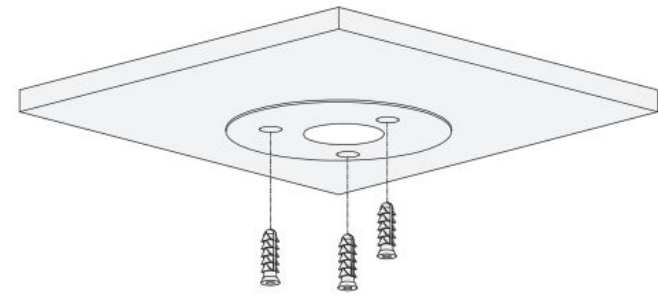

Figure 2-3
Step 3 Install the expansion screws. See Figure 2-3.